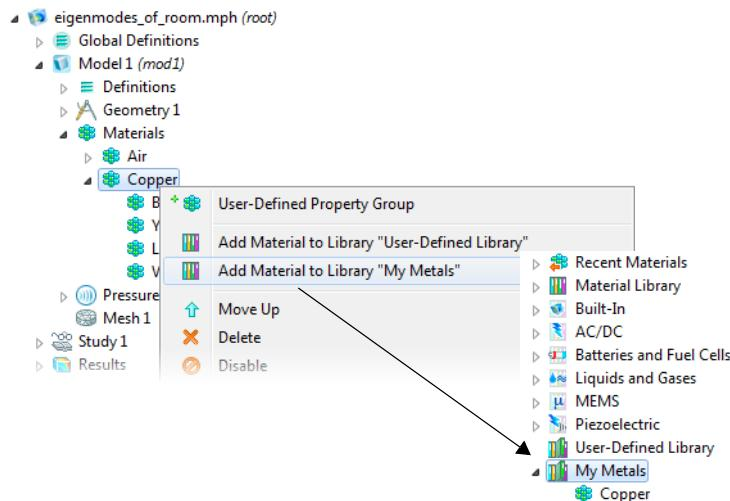

Figure 6-9: Adding a predefined material to a new user-defined library.
- 3 Right-click to **Rename Selected** material that has been added to your library. See Figure 6-9.